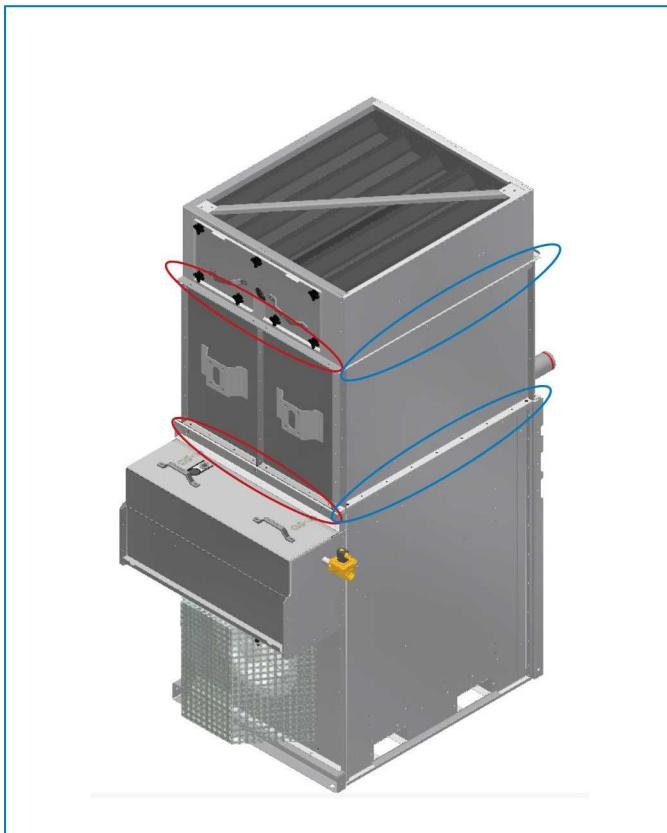

Fig. 7 Fastener type for the spray section assembly
2. Remove the access panel from the spray section, saving the hardware, then carefully remove the eliminators through the opening. Note each eliminator's orientation and location. The eliminators will be replaced after installing the spray's piping. See figure 7.
3. Apply sealer tape to top of the hCore™ Heat Tranfer Technology section. Overlap the sealer tape 25 mm in the corners. The spray section can then be lifted and attached on all four sides to the lower section using factory-supplied fasteners, see figure 3. Note the fastener type varies on the location and the unit's material of construction. See figure 7 and table 3.